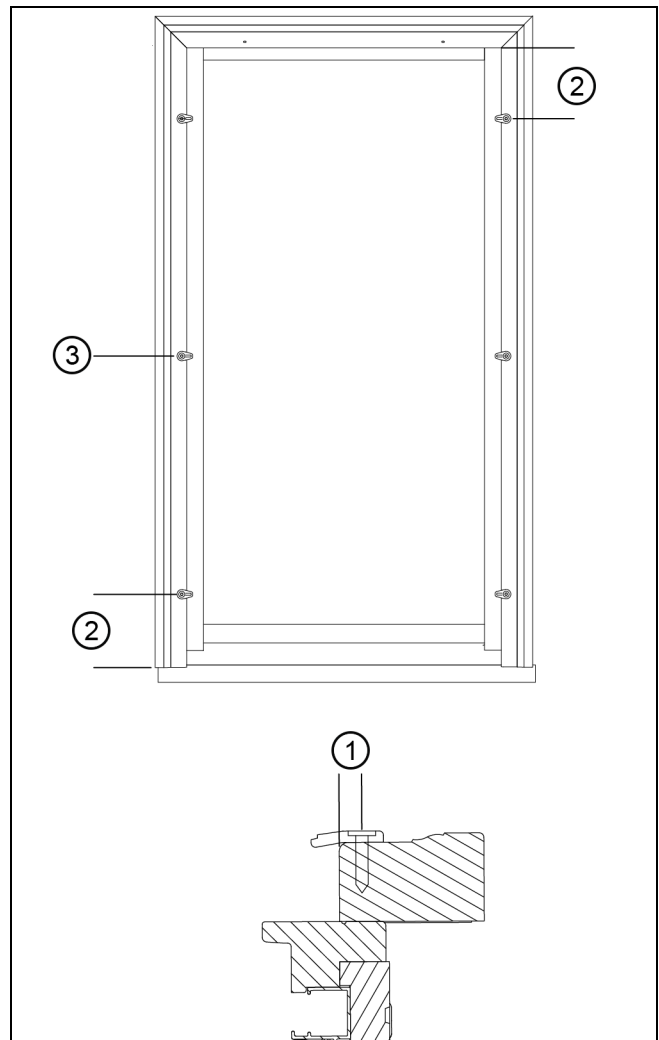

Figure 9
1. Pre-drill holes in the wood brick mould casing (BMC) 3/16" from the interior edge at midpoints, and 4 1/2" from the ends with a 3/32" (2) drill bit. Center the combination on the exterior of the window and fasten in place using the 3/8" screws and turn buttons provided. See Figure 9.